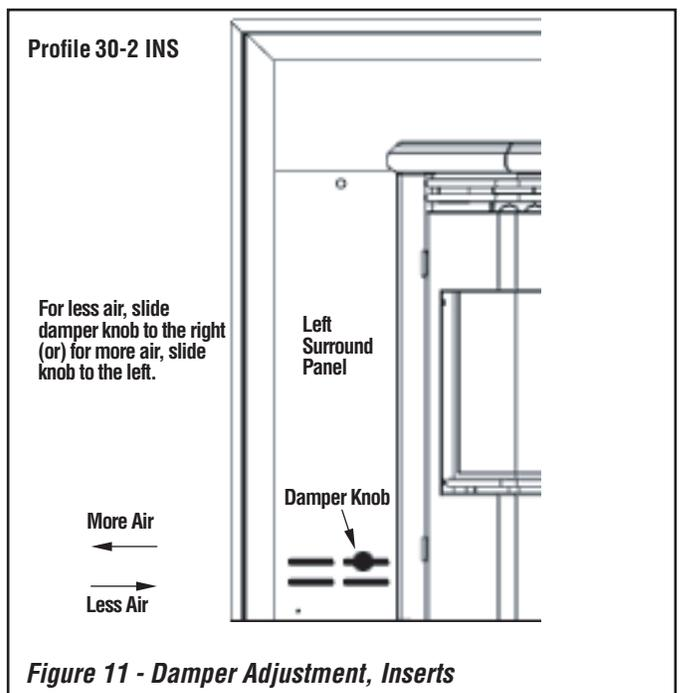

Figure 11 - Damper Adjustment, Inserts
9. Reach behind left surround panel and rotate damper arm so that end is inserted into the upper right hand slot of left surround panel (see **Figure 11**).
Install damper rod knob as illustrated (see **Figure 11**) and explained on this page (see *Installing Surround Assembly – Profile 30 INS-2*).
The damper knob should be positioned in the center of the oblong slot for the average installation (see **Figure 11**). If more or less air is needed, then adjust in 1/4” increments until optimum combustion air flow is achieved (see *Damper Adjustment Guidelines* on **Page 21**).